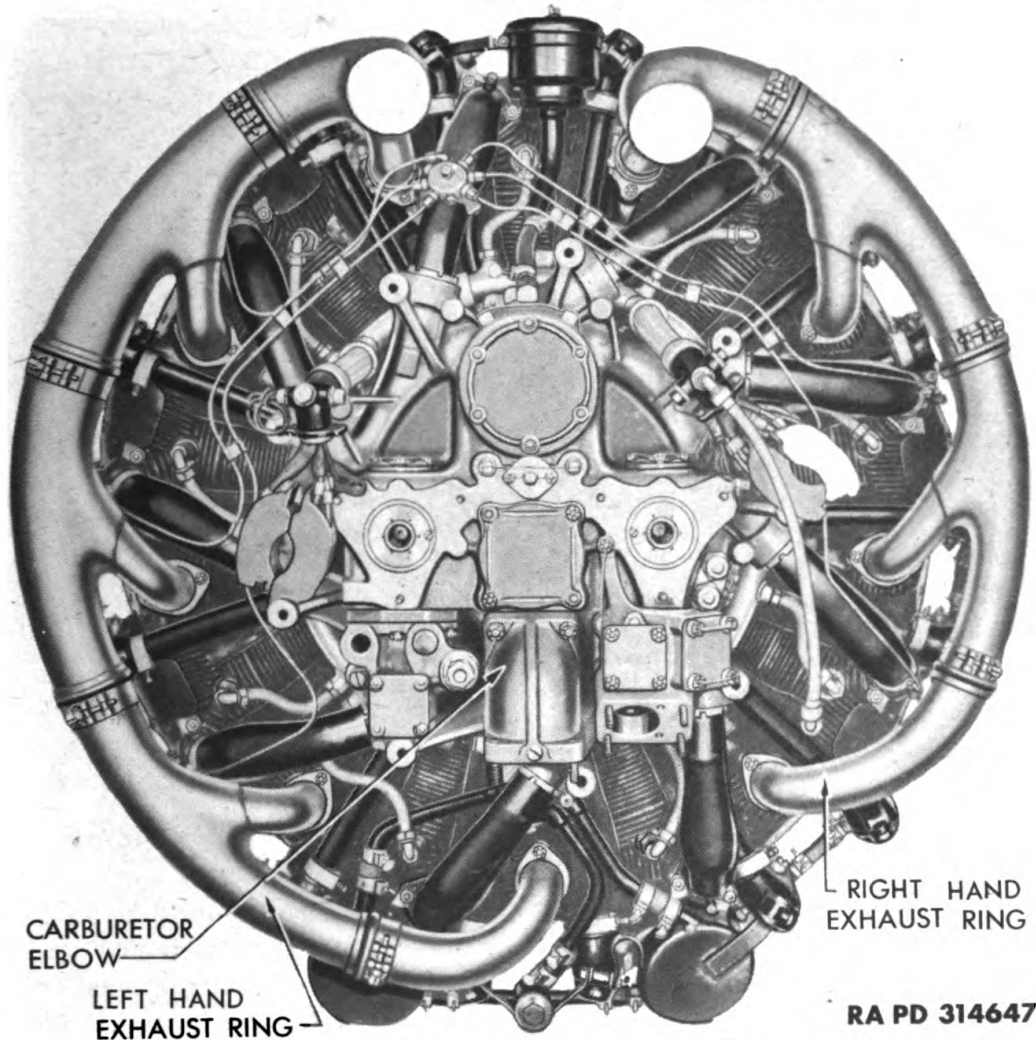

Figure 35 – Exhaust Collector Ring
c. Remove Exhaust Collector Ring. Cut and remove safety wires from two nuts which secure collector ring segments to studs on each cylinder exhaust elbow. Remove nuts, and washers. There are 10 nuts for the left ring segment and 8 for the right. Remove exhaust collector ring segments from exhaust elbows as assemblies (fig. 35). Remove and discard copper gaskets at exhaust elbows. Lower engine to disassembly stand. Fasten engine to stand and remove sling.